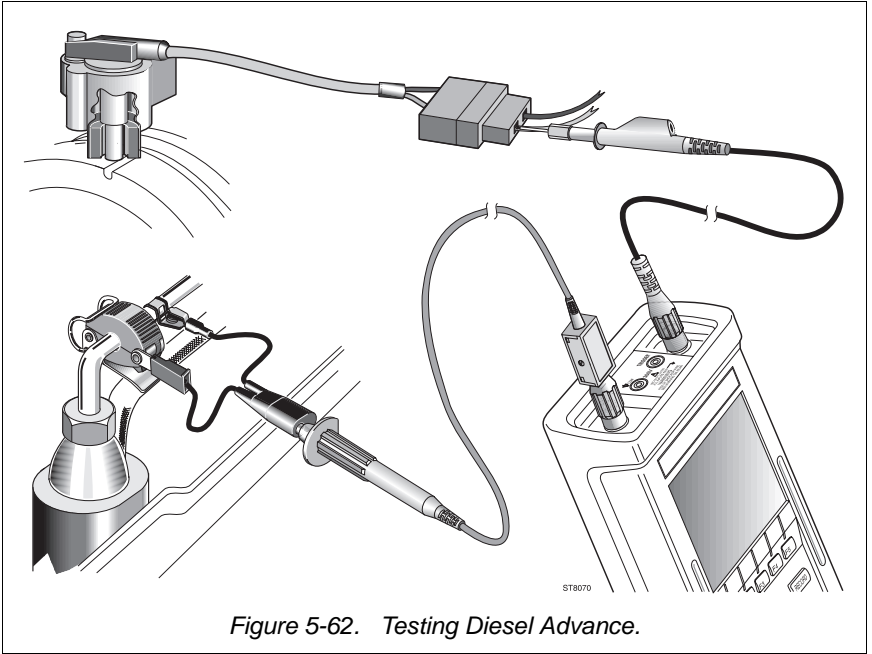
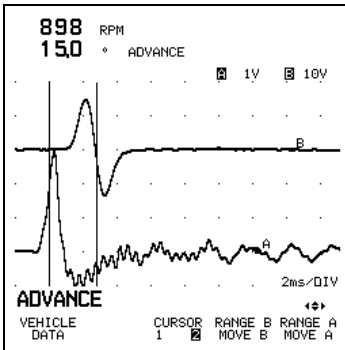

Figure 5-62. Testing Diesel Advance.
Figure 5-63. Advance at Idle.
The piezo pickup is clamped on the fuel line of the first cylinder, close to the injector and connected via the blue filter probe to INPUT A. (See Figure 5-62).
④ Connect the test leads as displayed by the test tool's Connection Help and shown in Figure 5-62.
⑤  Starts the Diesel Advance test.
⑥ Position the cursors as shown in Figure 5-63.